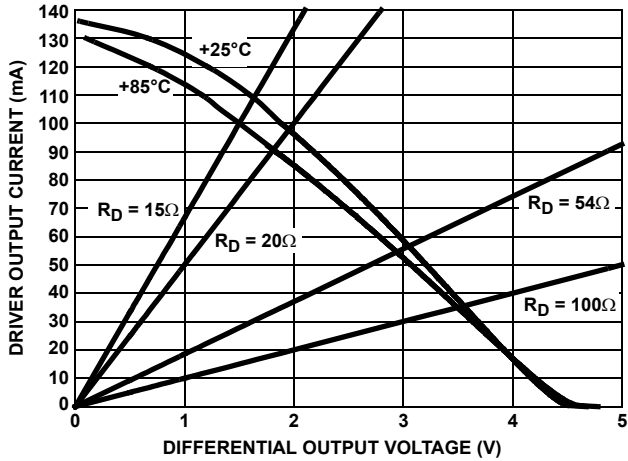

FIGURE 8. DRIVER OUTPUT CURRENT vs DIFFERENTIAL OUTPUT VOLTAGE
- See Figure 8 for more information, and for performance over-temperature.
Another advantage of the large  $V_{OD}$  is the ability to drive more than two bus terminations, which allows for utilizing the ISL3158AE in "star" and other multi-terminated, "non-standard" network topologies. Figure 8, details the transmitter's  $V_{OD}$  vs  $I_{OUT}$  characteristic, and includes load lines for six ( $20\Omega$ ) and eight ( $15\Omega$ )  $120\Omega$  terminations. The figure shows that the driver typically delivers 1.65/1.5V into 6/8 terminations, even at the worst case temperature of  $+85^\circ\text{C}$ . The RS-485 standard requires a minimum 1.5V  $V_{OD}$  into two terminations, but the ISL3158AE delivers RS-485 voltage levels with 3x to 4x the number of terminations.